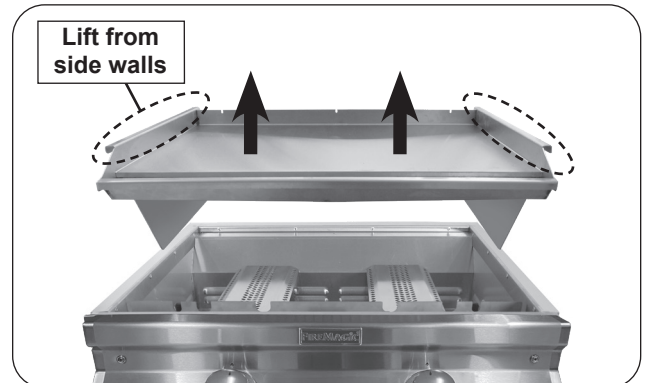

Fig. 40-3 Griddle top removal
**Note:** Lift the griddle top from the left and right raised walls. Reference Fig. 40-3.